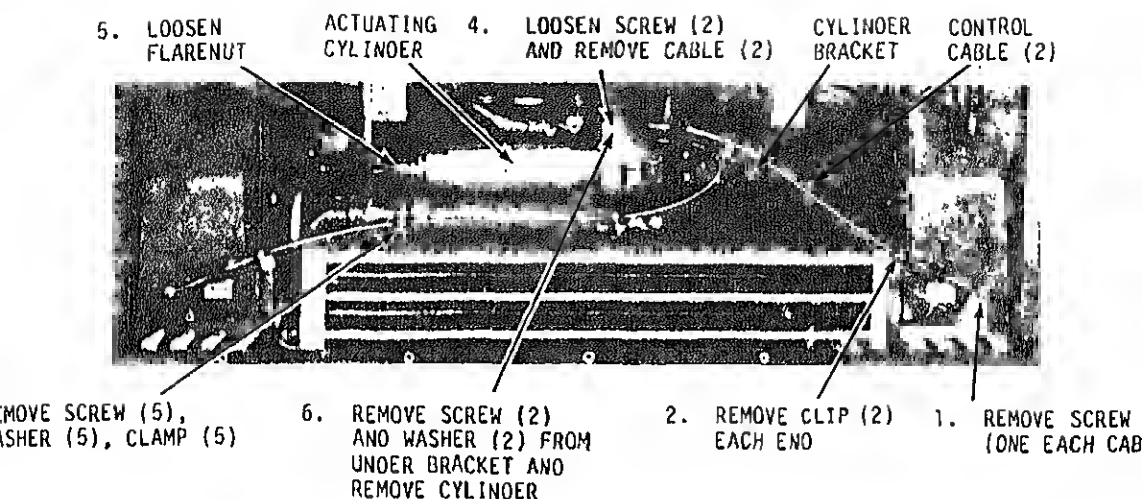
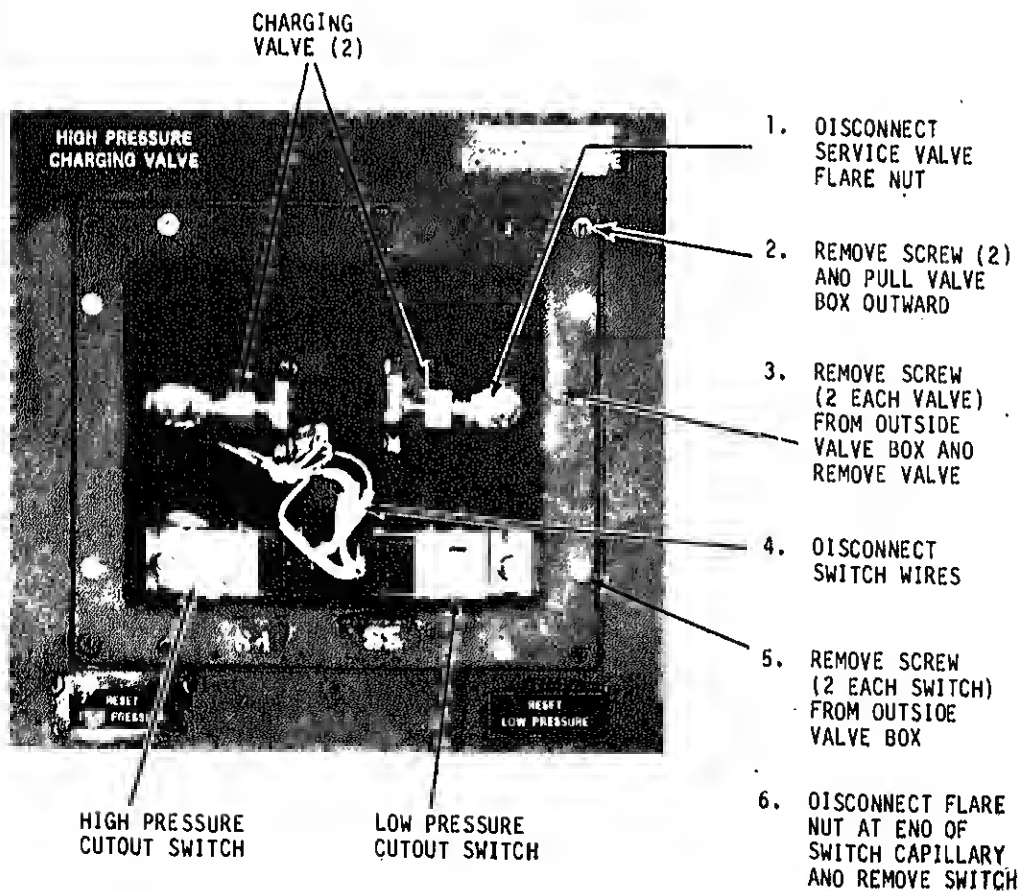

Figure 5-5. Condenser louver control, removal and installation
Figure 5-6. Service valves, high and low pressure cutout switches, removal and installation
(3) Refer to figure 5-5 and loosen mechanical post screws at each end of loop control wire.
(4) Remove screw, lockwasher and loop clamp.
(5) Remove push-pull control assembly clips at each end and remove push-pull control.
(6) Disconnect flare nut from actuator cylinder.
(7) Remove two nuts and lockwashers from bracket and remove actuator cylinder. If cylinder is to be replaced, remove rivets and retain push-pull control assembly brackets.
(1) Reinstall push-pull control assembly brackets on replacement cylinder.
(2) Install actuator cylinder (figure 5-5) with studs through openings in bracket. Install lockwashers and nuts on studs.
(3) Connect flare nut.
(4) Install push-pull control. Insert outer control casing clips over studs and insert wire ends into openings in mechanical posts on louver lever and actuator cylinders.
(5) Install push-pull control clips on louver control in position. Install control clamp, screw, and lockwashers.
(6) Adjust control as described in figure 5-6.
(3) Refer to figure 5-6 and disconnect the service valve flare nuts.
(4) Remove four screws and pull charging valve box outward as allowed by the cutout switch wiring and capillary tubes. Take care not to damage the capillary tubes.
(5) Remove service valve by removing mounting screws on side of charging valve box.
(1) Refer to figure 5-6 and mount service valve in charging valve box.
(2) Place charging valve box in position and attach to housing.
(3) Attach refrigerant line flare nut to service valve.
(3) Refer to paragraph 5-21 and disconnect the service valve flare nut.
(4) Remove four screws and pull charging valve box outward as allowed by wiring and capillary tubes. Take care not to damage the capillary tubes.
(5) Refer to figure 5-6 and disconnect the pressure cutout switch electrical leads.
(6) Remove pressure cutout switch mounting screws on side of charging valve box.
(1) Refer to figure 5-6 and in-